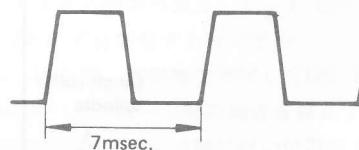

Fig. 2-18 Waveform at TP1
4. During fast forward or rewind mode, adjust R150(see Fig. 2-9) so that wavelength displayed on the oscilloscope becomes 7msec. (Fig. 2-18). Adjustment should be satisfied at any tape winding position.
3. TP.1の波形の波長が7m secになるようにR150(図2-9参照)を調整する……図2-18